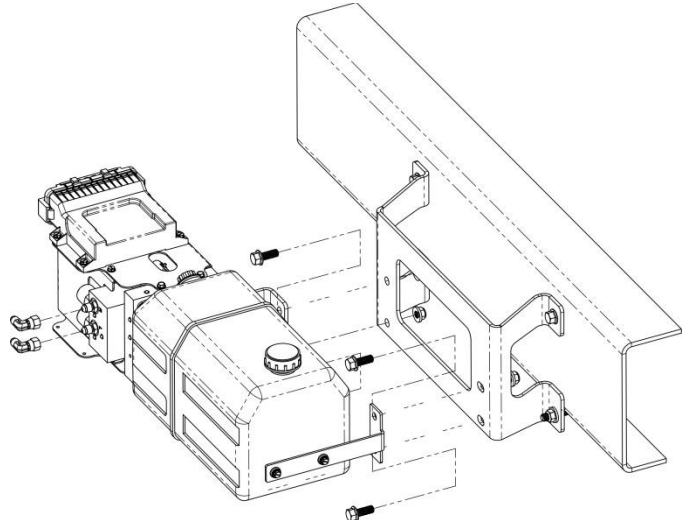

Figure 31. Attaching Power Module Assembly
10. Locate the Power Module Reservoir Mount, p/n 10798-004, (2) 3/16" ID x 9/16" OD Grommets, (2) #10 Flat Washers, and (2) #10-16 x .750" Self Tapping Screws.
12. Attach the bracket to the reservoir using the washers and self-tapping screws. Refer to Figure 31.